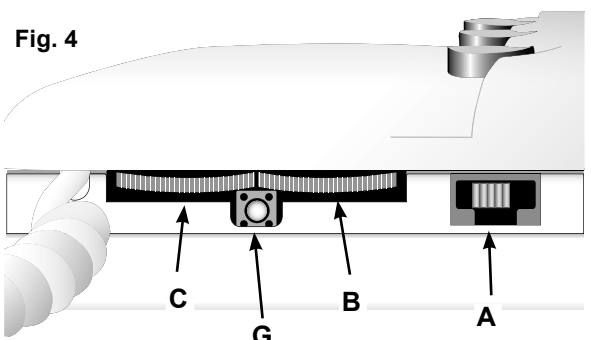

Fig. 4
- 2) Press and hold the RESET pushbutton "G" present below the monitor (see Fig. 4).
- 2) Press and hold the RESET pushbutton "G" present below the monitor (see Fig. 4) to be called.
- 1) Press and hold the RESET pushbutton "G" present below the monitor (see Fig. 4).